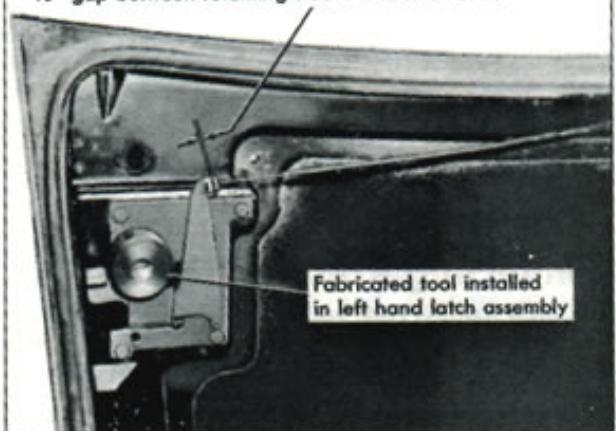

Fig. 3—Alignment Tool Installed
- Insert fabricated tool into left hand hood latch assembly as shown in Figure 3. The pressure of the lock will hold the tool in position.
- On early built Corvettes which utilize retaining sleeves for lock cable adjustment, perform the following (reference Fig. 3):